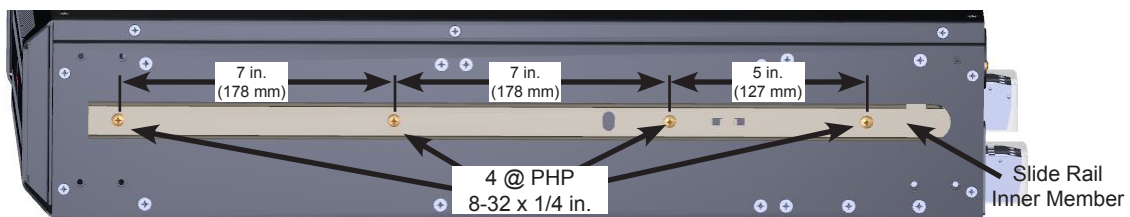
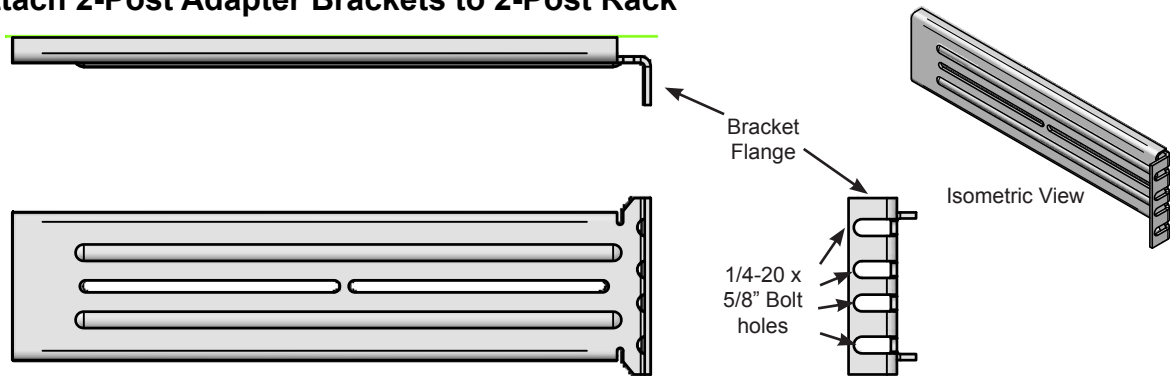

FIGURE 2: INSTALL INNER SLIDE MEMBER ON LEFT AND RIGHT SIDES OF MODULE(S)
FIGURE 3: 2-POST SLIDE BRACKET (4 PER MODULE)
2. Attach an EZ Rail to each side of the UPS module using 4 x Phillips 8-32 x 1/4". Orient the inner Slide Member so the rounded end is towards the rear of the module. (Figure 2)
2. Hold one of the 2-Post mounting brackets, P/N 2496052, against the 2-Post mounting flange at the level of the lowest module to be installed, with the bracket flange, Figure 2, to the outside of the 2-Post rack (Figure 3).